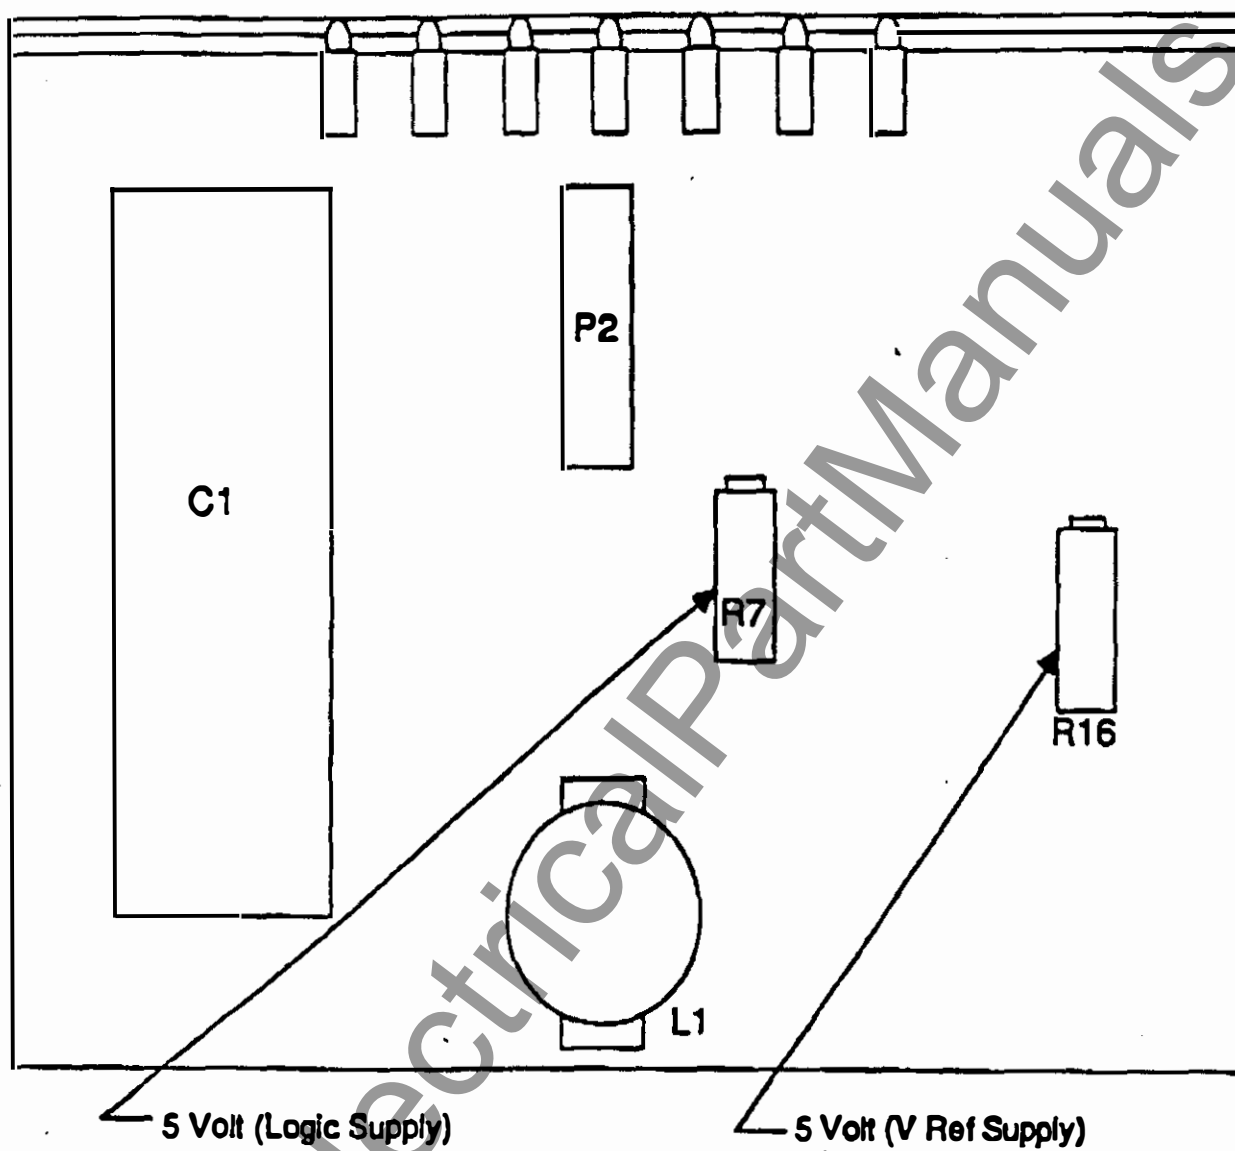

FIGURE 23 Power Supply Board
4. Verify that the V_{ref} voltage is 5.000 V dc. If necessary adjust R16 (V_{ref} Supply) on the Power Supply Board (P-0582) as shown in Figure 23, for 5.000 V dc.